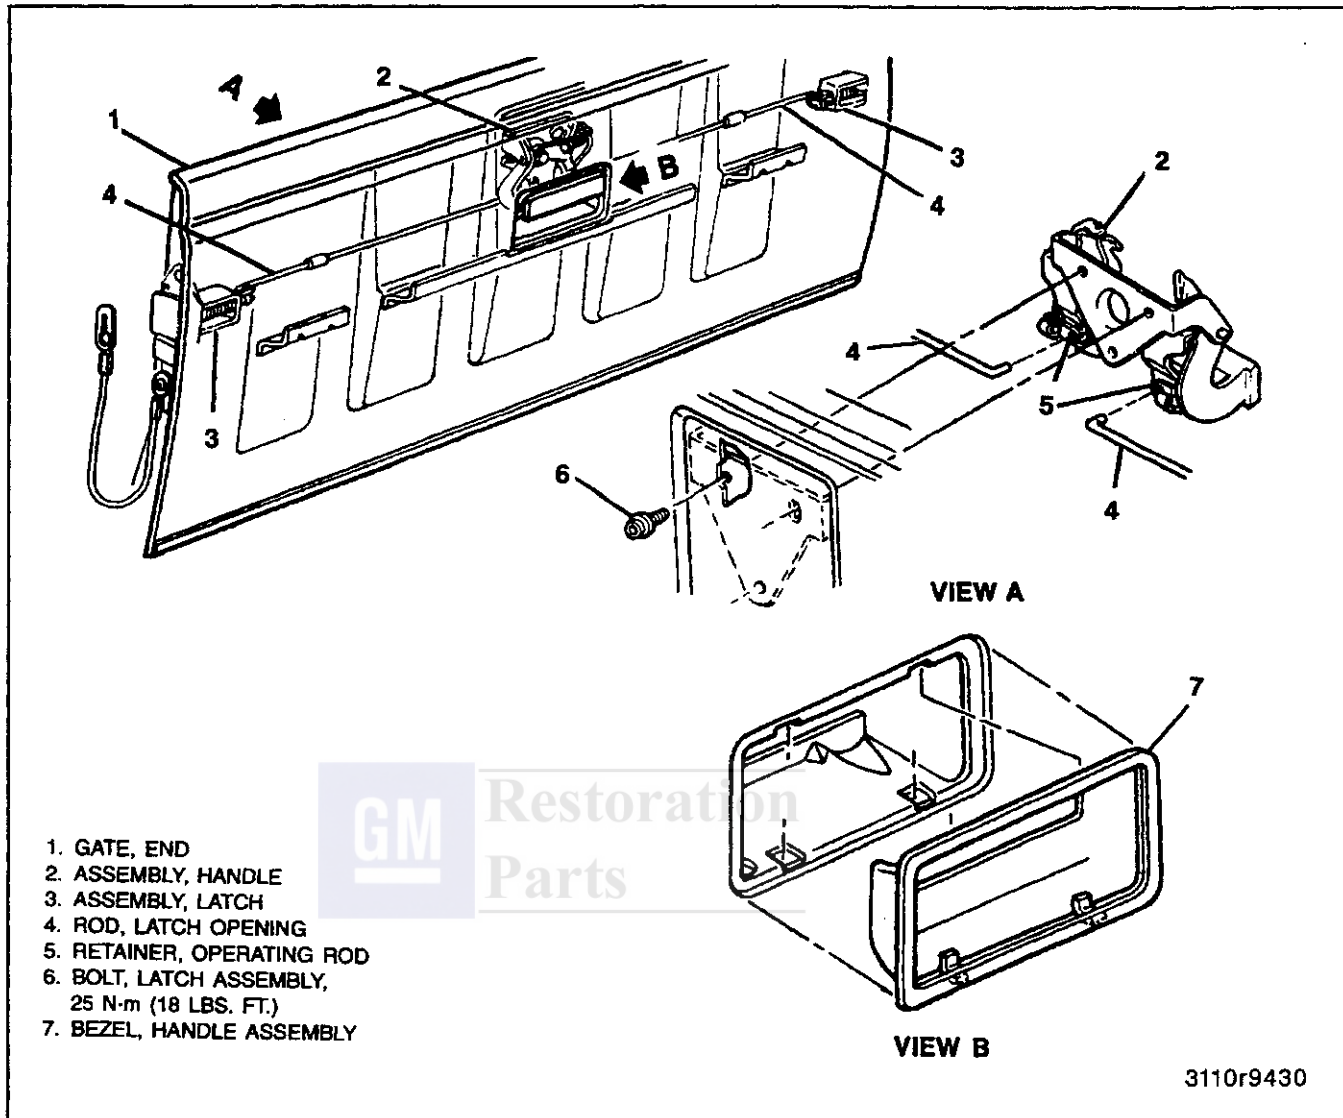

Figure 3—Latch Operating Handle
**Remove or Disconnect (Figure 3)**
### Install or Connect (Figure 3)